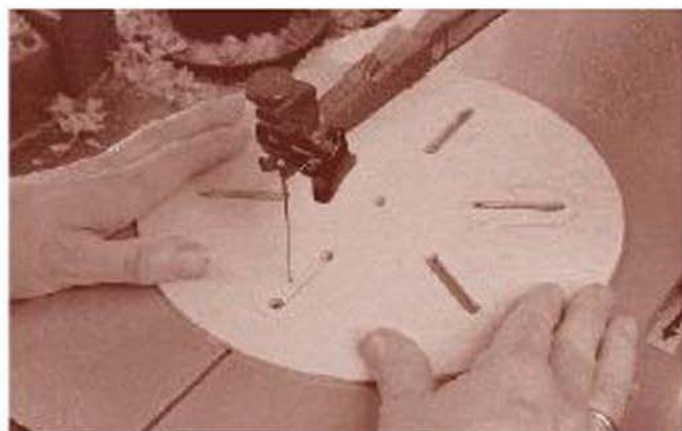

FIGURE 19-8
- 3** Cut the slots out on the scroll saw. The best way is to drill two holes in each of the drawn slots, one at each end. Detach the saw blade and pass it through the hole, reattach and tension the blade, then cut out the slot (Figure 19-8). Remember to drill a hole through for the crank disk pivot.